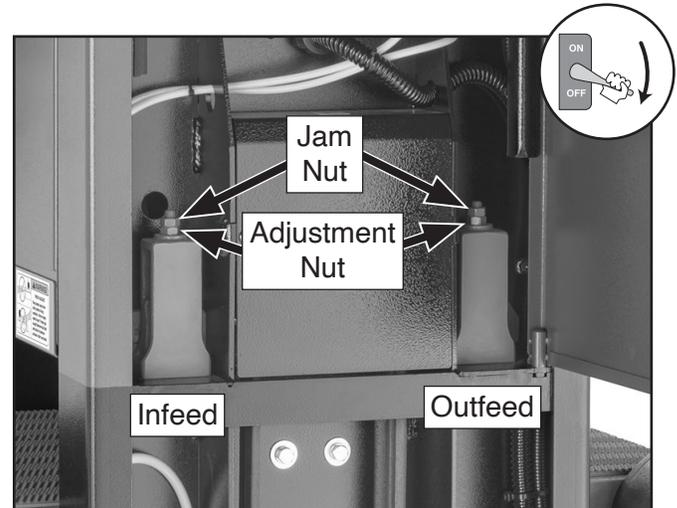
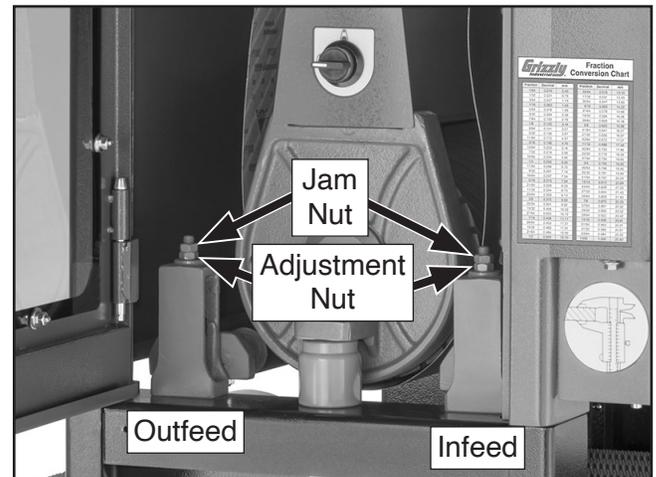

Figure 100. Location of pressure roller adjustment components (right side).
Figure 101. Location of pressure roller adjustment components (left side).
11. Loosen jam nuts on infeed pressure rollers, rotate adjustment nuts (see **Figure 100–Figure 101**) to adjust infeed pressure rollers until they just touch boards, then tighten jam nuts to secure.
12. Repeat **Step 11** for outfeed pressure rollers (see **Figure 100–Figure 101**).